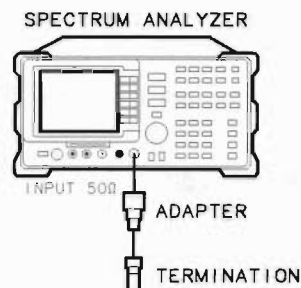

Figure 2-76. Residual Response Test Setup
1. Connect the termination to the spectrum analyzer input as shown in Figure 2-76.